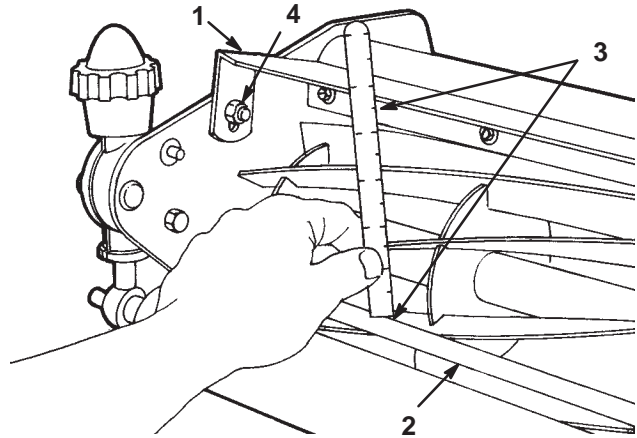

Figure 8
1. Set the cutting unit in the normal cutting position and measure the distance from the top of the front crossbar to the shield at each end of the cutting unit (Fig. 8).
2. For normal cutting conditions, the height of the shield from the crossbar should be 4-3/4 in. (121 mm). Loosen the capscrews and nuts securing the shield to each side plate, adjust the shield to the correct height, and tighten the fasteners (Fig. 8).